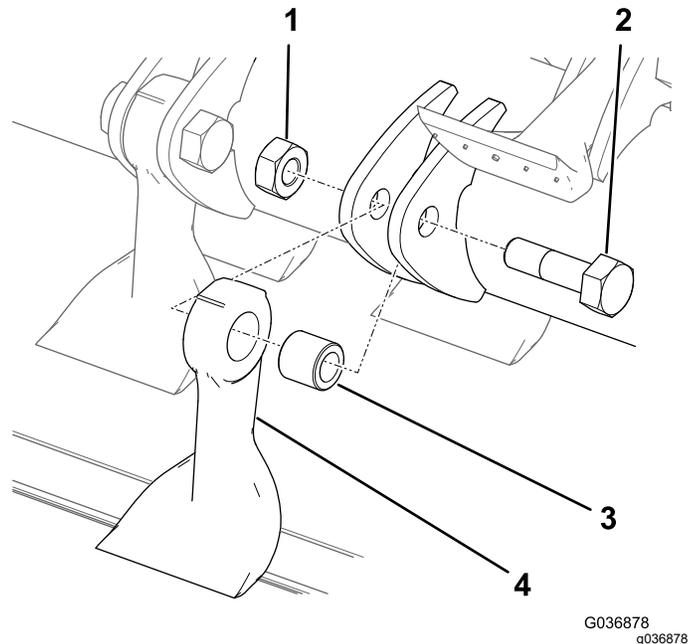

Figure 86
7. Holding the blade in a rag or padded glove, remove the nut, bolt, bushing, and blade (Figure 86).
9. Install a new blade and bushing with a new nut and blade bolt (Figure 86).